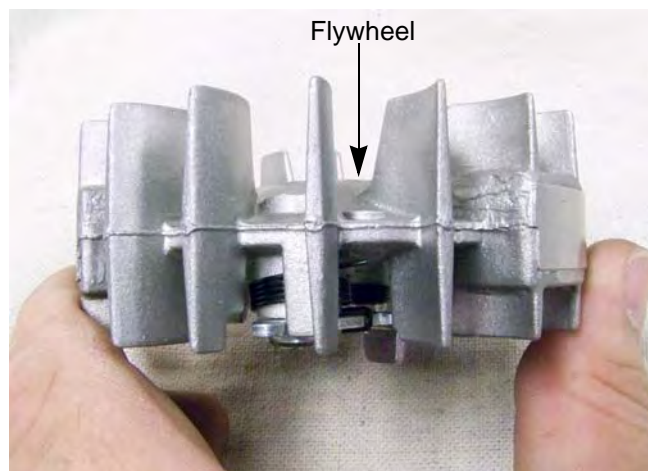

Figure 4.9
**NOTE:** The flywheels used on the P25 series of engines are double sided fans for greater cooling capacity. See Figure 4.9.